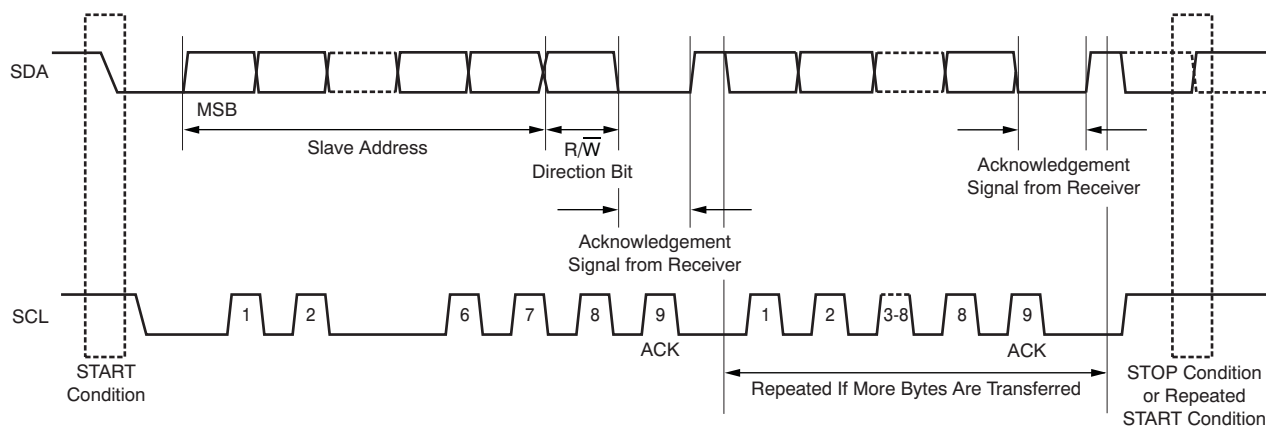

Figure 29. Complete Fast- or Standard-Mode Transfer
The following bus protocol has been defined (see Figure 29):
Figure 29 details how data transfer is accomplished on the I²C bus. Depending upon the state of the R/W bit, two types of data transfer are possible:
In the serial transfer format of F/S mode, the master signals the beginning of a transmission to a slave with a START condition (S), which is a high-to-low transition on the SDA input while SCL is high. When the master has finished communicating with the slave, the master issues a STOP condition (P), which is a low-to-high transition on SDA while SCL is high, as shown in Figure 29. The bus is free for another transmission after a STOP condition has occurred. Figure 29 shows the complete F/S mode transfer on the I²C, 2-wire serial interface. The address byte, control byte, and data byte are transmitted between the START and STOP conditions. The SDA state is only allowed to change while SCL is low, except for the START and STOP conditions. Data are transmitted in 8-bit words. Nine clock cycles are required to transfer the data into or out of the device (8-bit word plus acknowledge bit).